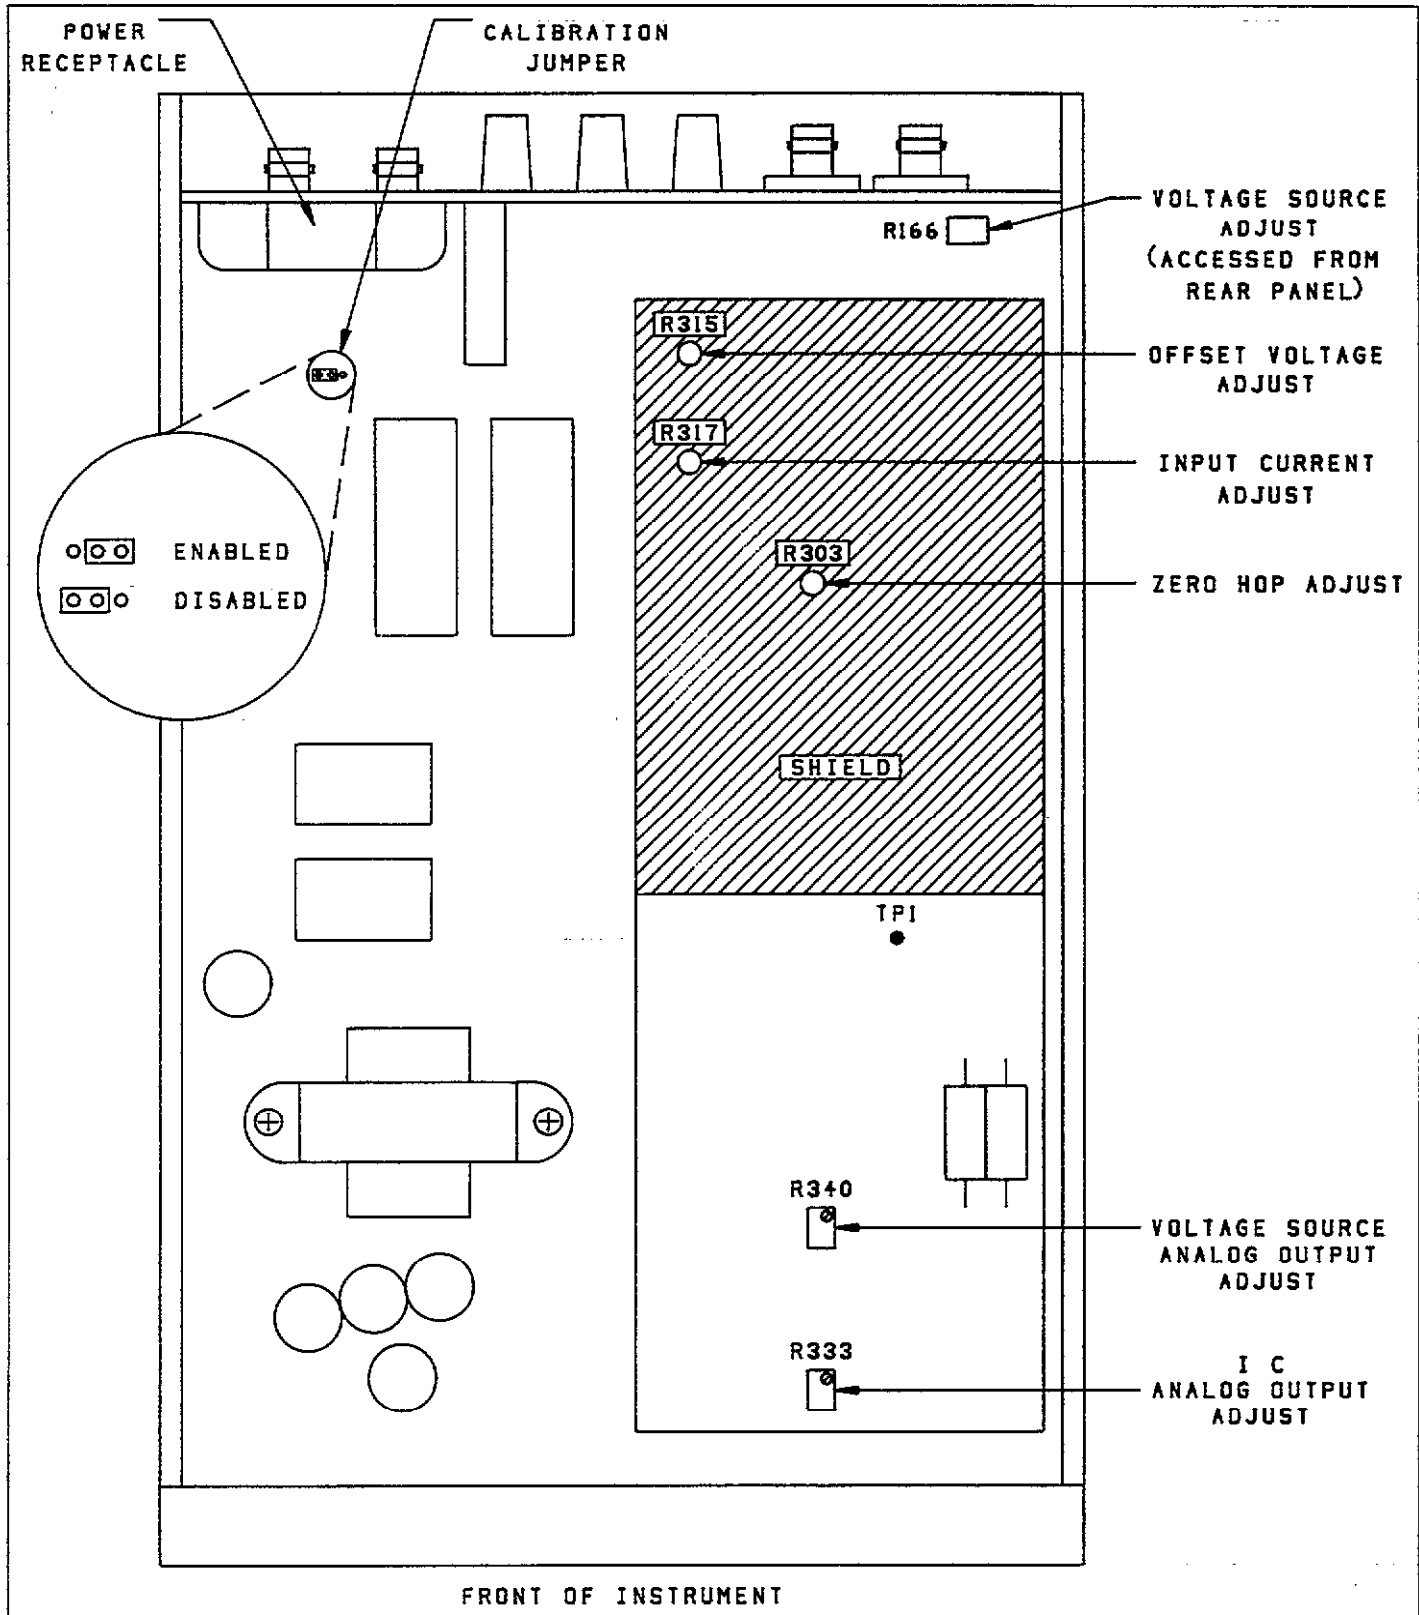

Figure 8-2. Calibration Jumper and Calibration Pots
The calibration jumper location is located on the mother board near the AC line receptacle (see Figure 8-2). The disable/enable positions are also shown in Figure 8-2. Note that the jumper is in the disable position as shipped from the factory.
5. Using the DMM set to the 200mVDC range, monitor Test Point 1 (TP1) on the preamp board (see Figure 8-2) referenced to GUARD. Locate the offset adjustment potentiometer (R315) on the preamp board. The pot is accessible through a small hole in the shield closest to the rear of the instrument.
3. Turn pot R303 (see Figure 8-2) fully counter clockwise.
7. Locate the input current potentiometer R317 on the preamp board (see Figure 8-2). It is accessible through a small hole in the shield.